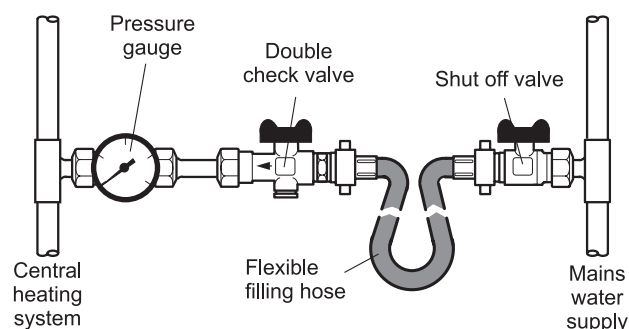

Fig. 14b
- 8 The filling loop kit and pressure gauge supplied should be located in a convenient and easily accessible position inside the house, where the gauge is visible to the User, see Fig. 14b, as follows:
- 10 The filling loop kit and pressure gauge supplied should be located in a convenient and easily accessible position inside the house, where the gauge is visible to the User, see Fig. 14b, as follows: